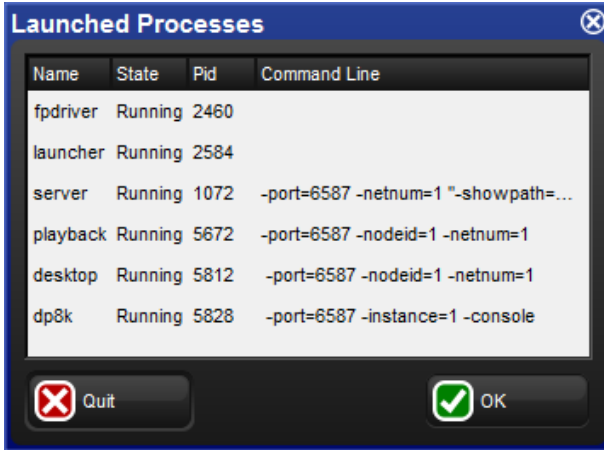

Figure 32.1. The Launched Processes window
1. Pig + Open + Backspace : open the Launched Processes window; see *Figure 32.1, "The Launched Processes window"*.